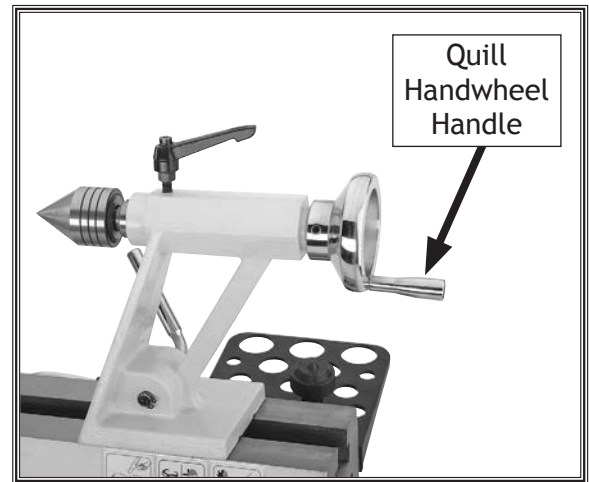

Figure 10. Quill handwheel handle installed.
1. Attach quill handwheel handle to quill handwheel with (1) M6-1 X 10, 7 X 44 shoulder bolt (see **Figure 10**).